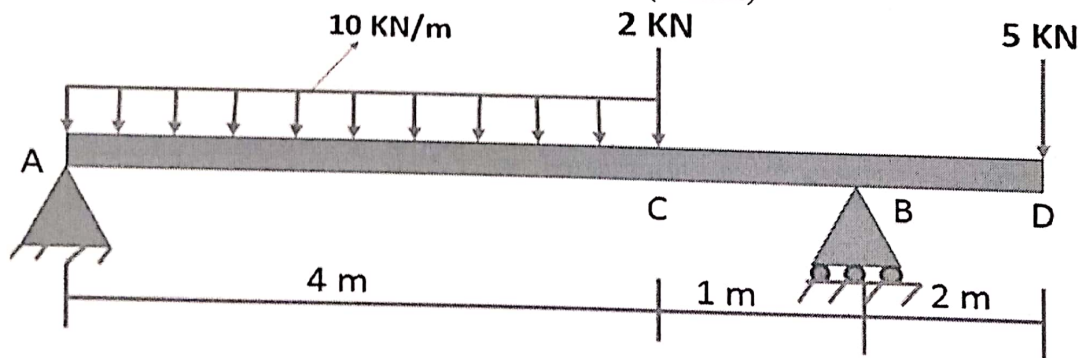

Figure Q4: Single side overhanging beam subjected to loading
- (a) Draw the shear force and bending moment diagrams for the single side overhanging beam subjected to loading as shown in Figure Q4. Determine the absolute maximum bending moment and shear forces. Also show the shear force and bending moment diagrams. (7 Marks)